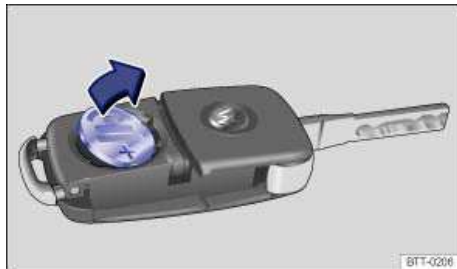

Fig. 18 Remote control vehicle key: Remove old battery.
- Use a thin object to pry the battery out of the battery compartment ⇒ fig. 18.